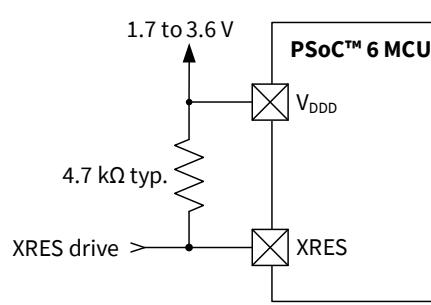

Figure 6 **XRES connection diagram**
- External reset dedicated pin (XRES) to reset the device using an external source. The XRES pin is active low. It can be connected either to a pull-up resistor to V_{DDD}, or to an active drive circuit, as **Figure 6** shows. If a pull-up resistor is used, select its value to minimize current draw when the pin is pulled low; 4.7 kΩ to 100 kΩ is typical.